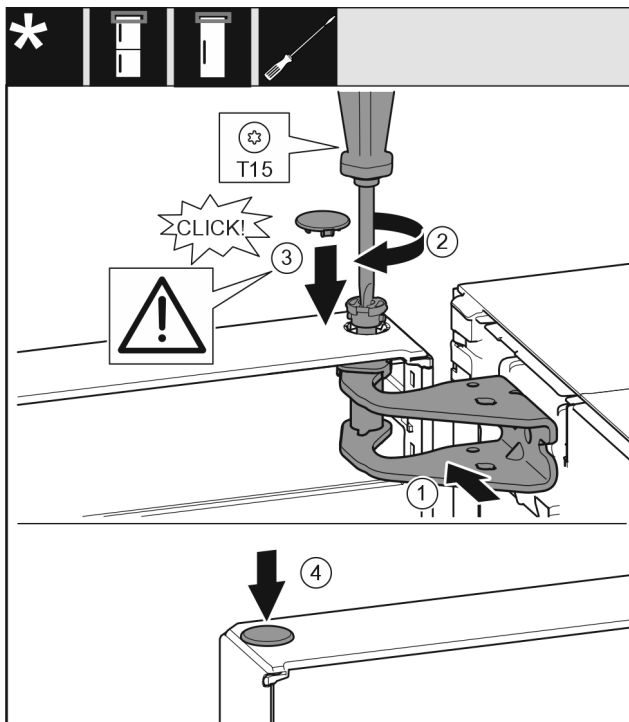

Fig. 23
- ▶ Align the top door with the opening in the swap bearing block *Fig. 23 (1)*.
- ▶ Insert the bolt *Fig. 23 (2)* and use screwdriver to tighten it.
- ▶ Insert the cover *Fig. 23 (3)*.
- ▶ Check that the cover *Fig. 23 (3)* is resting on the door.
- ▶ Insert the cover *Fig. 23 (4)*.